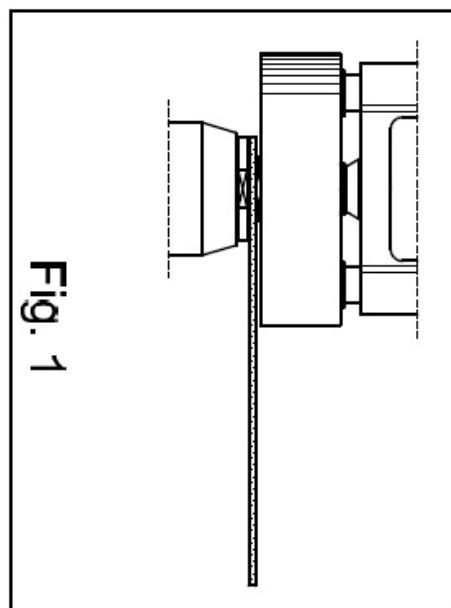

Fig. 1
- b. Screw, by using the wrench supplied, the pump directly in the lower crimper body instead of the drive bolt (**Fig. 1**).